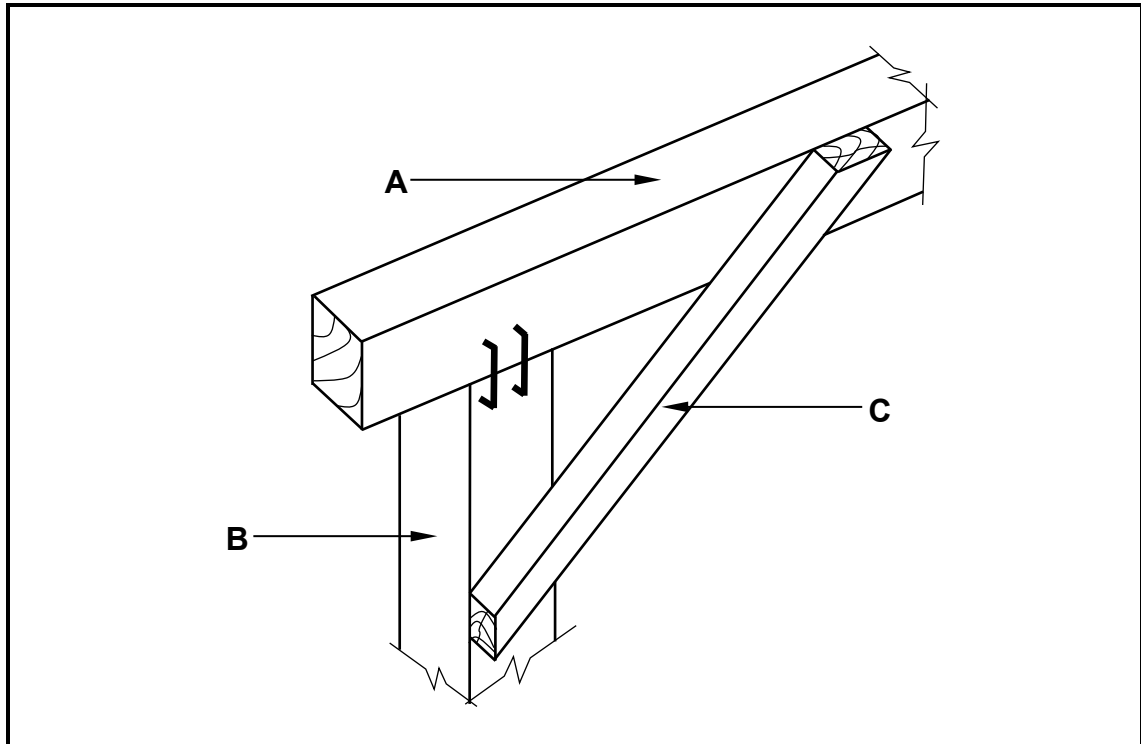

FIGURE 5.1
5.1 FIGURE 5.1 below shows a part of a dead shore.